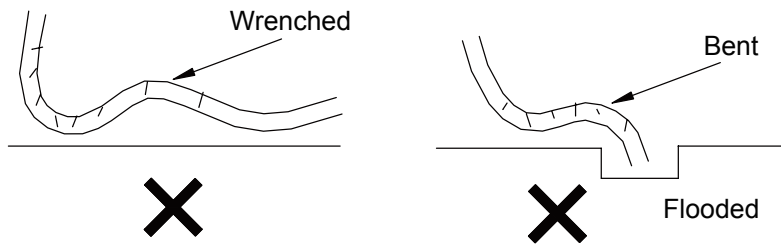

Fig.2.4
- (1) For proper draining, the drain hose should be placed at a downward sloping.
- (2) Do not wrench or bend the drain hose or flood its end by water. (Fig.2.4).
- (3) Wrap the drain hose with heat resistant material.